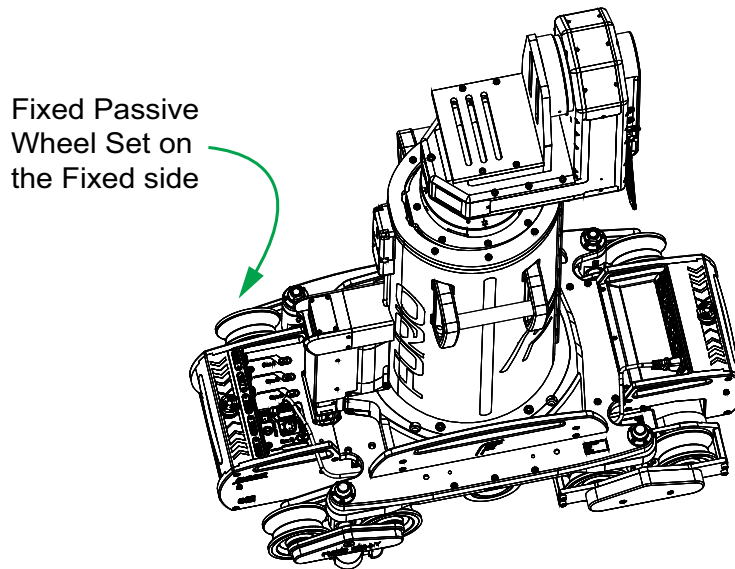

Figure 6 - Fixed Passive Wheel Set on the Fixed Side of the Dolly
1. Use a 17mm open-end wrench to remove the nut above the fixed passive wheel unit on the fixed side of the dolly. Refer to **Figure 6**.